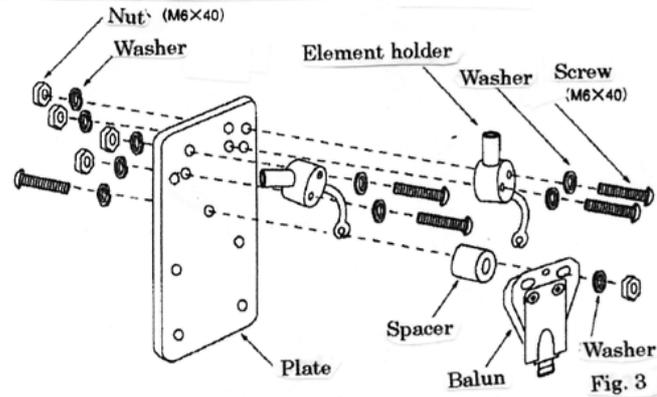

Fig. 3
1. Assemble feed point section (Fig. 3)